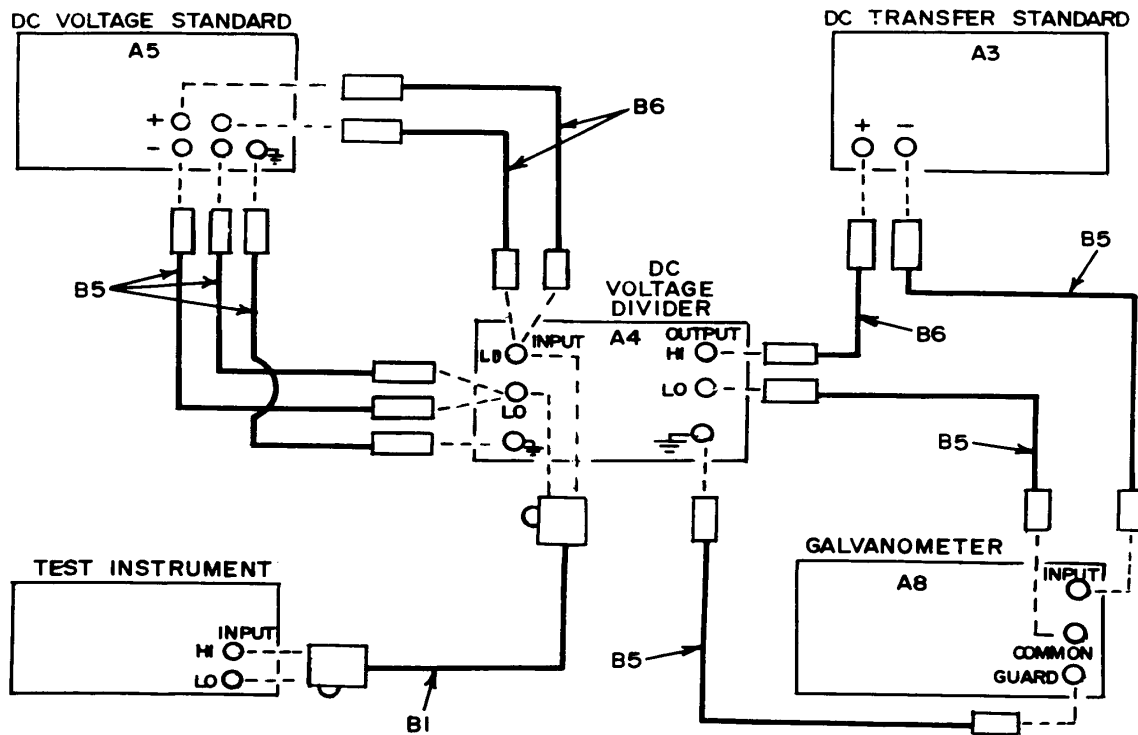

Figure 2. Dc voltage - equipment setup.
(1) Connect equipment as shown in figure 2.
- (22) Set dc voltage standard STANDBY/RESET to STANDBY and disconnect TI from dc voltage divider OUTPUT terminals.
- (23) Connect equipment as shown in figure 2.
- (24) Set RANGE to 100 and HIGH RESOLUTION to off.
- (25) Set dc voltage divider dials to .1000000.
- (26) Preset dc voltage standard dials to 99.999 V. Do not set STANDBY/RESET to OPR.
- (27) Set dc transfer standard for a 10 V output (mean).
- (28) Set dc voltage standard STANDBY/RESET to OPR and readjust dc voltage standard as required to obtain a null on galvanometer. TI will indicate between 99.989 and 100.011 V.
- (29) Set HIGH RESOLUTION to on. TI will indicate between 99.9897 and 100.0103 V.
- (30) Set RANGE to 1 k. TI will indicate between 99.987 and 100.013 V.
- (31) Set dc voltage standard STANDBY/RESET to STANDBY.
- (32) Set RANGE to 100 and HIGH RESOLUTION to on.
- (33) Preset dc voltage standard dials to 49.999 V. Do not turn STANDBY/RESET switch to OPR.